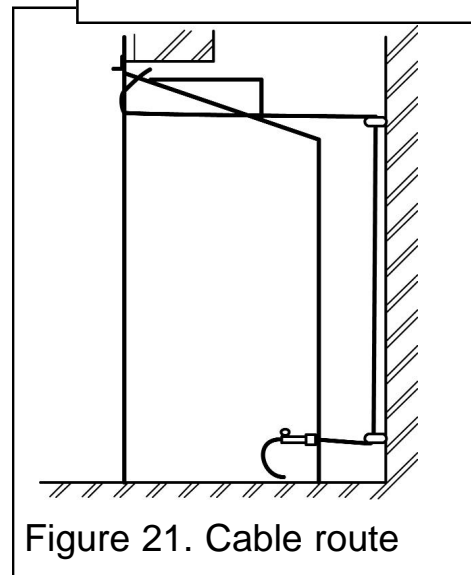

Figure 21. Cable route
6. Thread the cables through the eyebolts. Return the cables through the holes near the bottom of the convection box back panel (See figure 21) (**For precast or clay block flue systems return the cables through the slotted holes in the side of the convection box**).